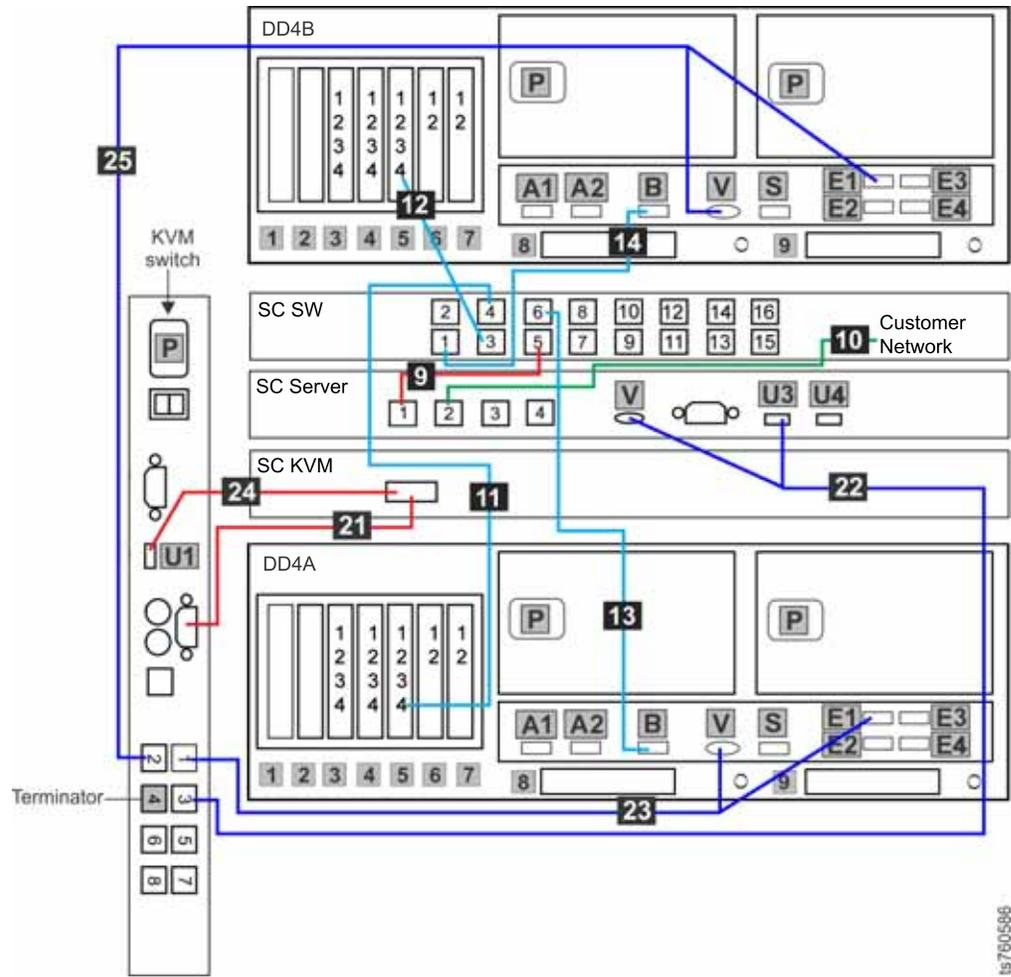

Figure 24. Clustered TSSC, KVM and customer network Ethernet connections for OpenStorage configuration
Depending upon the model of the TSSC and TSSC network switch being used, the port layout may differ from what is shown in Figure 24 on page 59. If so, label the cables according to the port number assignments specified in Table 21 on page 59, regardless of the position of the ports on the TSSC or the switch.
1. Label and connect Ethernet cables (Cat 5e or higher) according to Table 21 on page 59 and Figure 24 on page 59.